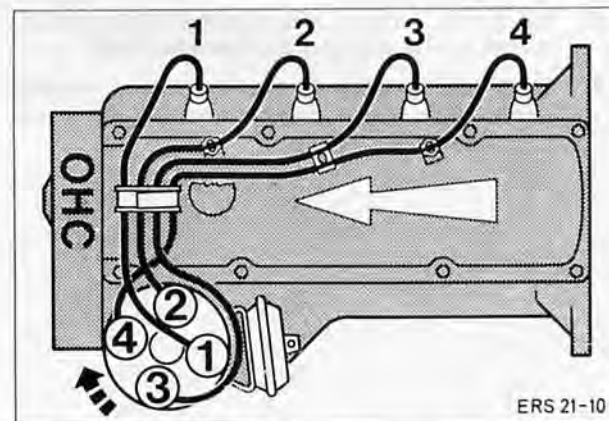

Fig. 120. Arrangement of HT leads (firing order)
65. Fit spark plugs and torque as specified in Technical Data. Refit distributor cap and connect HT leads to spark plugs as shown in Fig. 120.